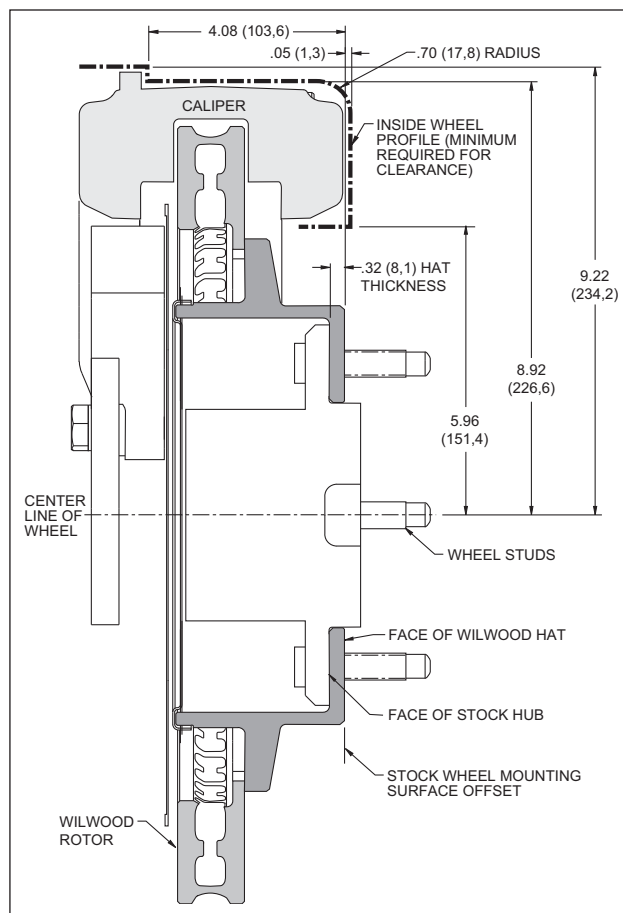

Figure 2. Wheel Clearance Diagram
- Review the wheel clearance diagram (figure 2, page 3) to verify that there is adequate clearance with the wheels you will be using with the installation.
•Verify your wheel clearance using Figure 2.